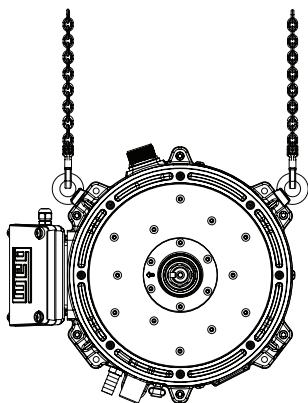

Figure 3.2: Position the motor fittings and drain plugs are facing downward
3. Position the motor so that the fittings and drain plugs are facing downward, as shown in the Figure 3.2 .